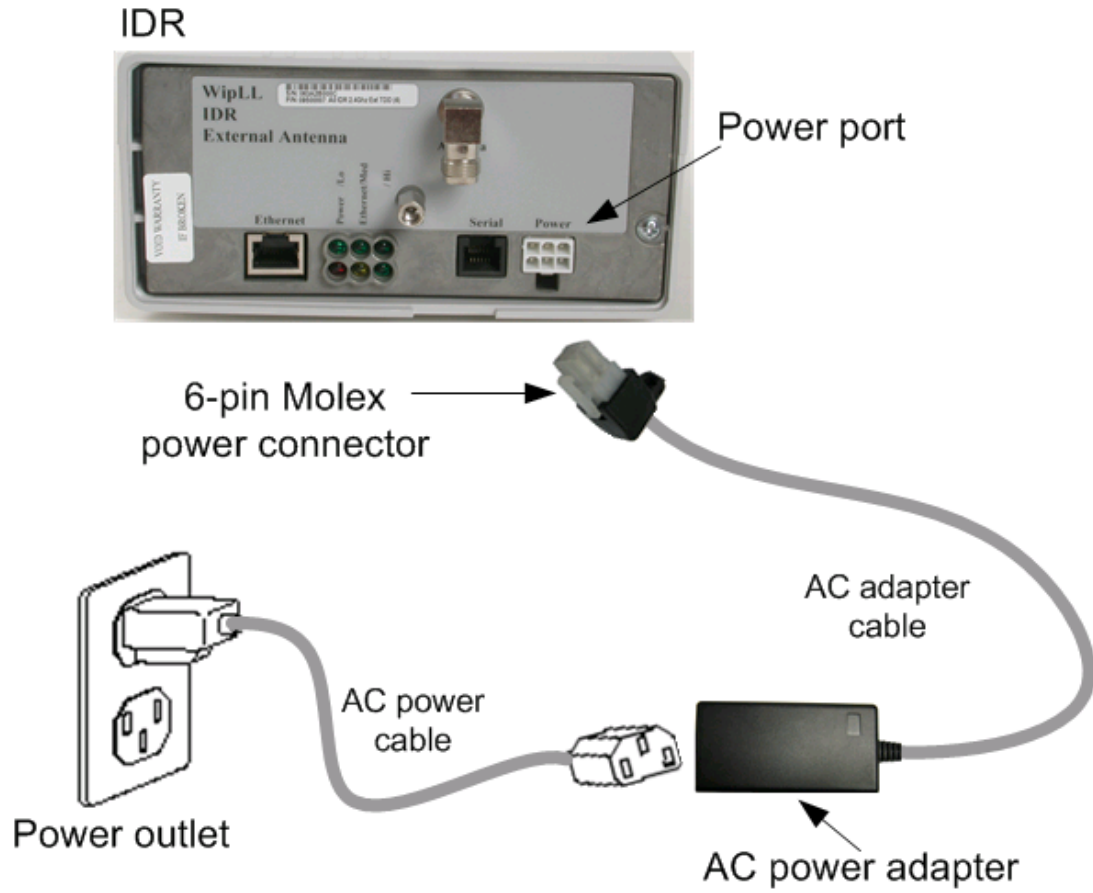

Figure 10-15: Connecting power to the IDR
1. Plug the AC power adapter's **6-pin Molex** connector into the IDR's power port labeled **Power** (see Figure 10-15).
2. Plug the **AC power plug female**, at the one end of the AC power cable, into the AC power adapter's socket (see Figure 10-15).
3. Plug the **AC power plug male**, at the other end of the AC power cable, into the electrical outlet (see Figure 10-15).